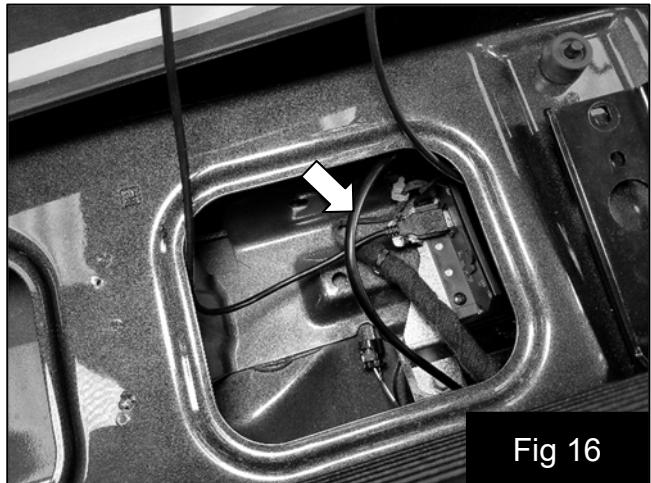

Fig 16
27. Secure extra controller cable with wire ties. Fig 16